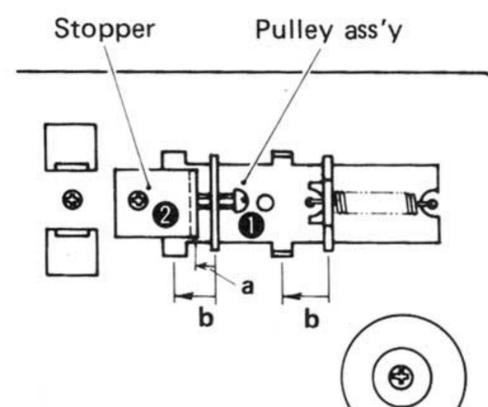

Fig. 11
1. Remove four screws ②, then remove the mechanism base securing plate.
2. Turn the pulley ass'y ⑥ screw counterclockwise which is positioned by stopper ⑤ at the rear side of the bottom board (see Fig. 11), loosen the wire, then remove the wire. (Refer to "Motion of Tonearm by Hand".)
3. Remove two screws ⑦, then remove the gear ass'y. Thereby, it is possible to remove the wire from the worm pulley ass'y.